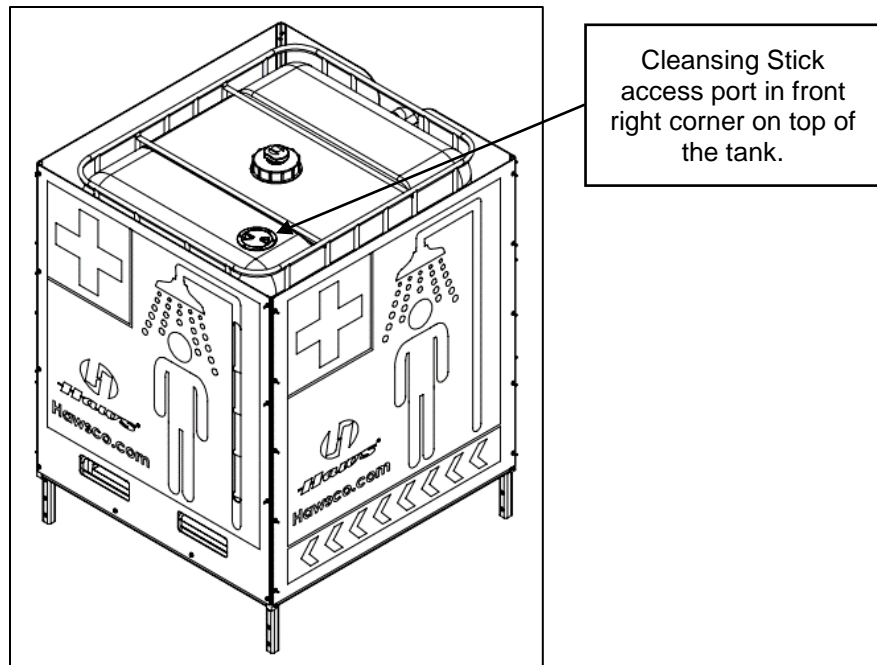

Figure 28. Model 9084 Cleansing Stick Access Port Location
1. Remove the threaded cover on the Cleansing Stick access port in the front right corner of the tank as shown in Figure 28. Turn counter-clockwise to remove. Note the small hole through the center of the cover.